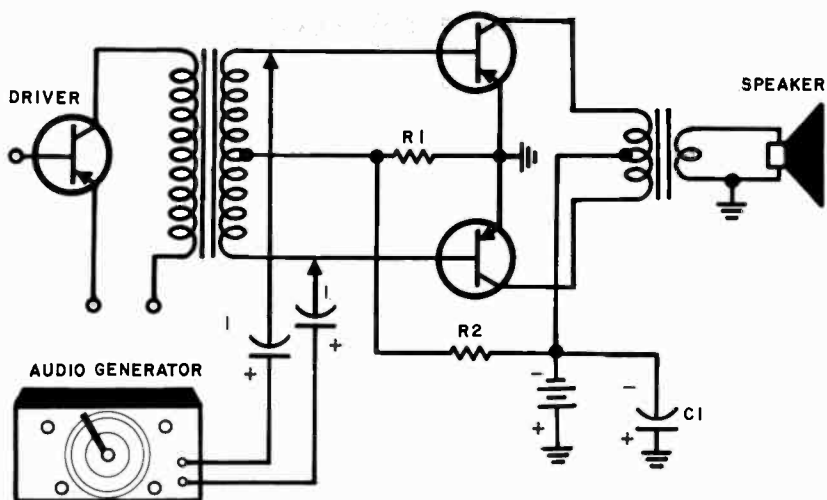
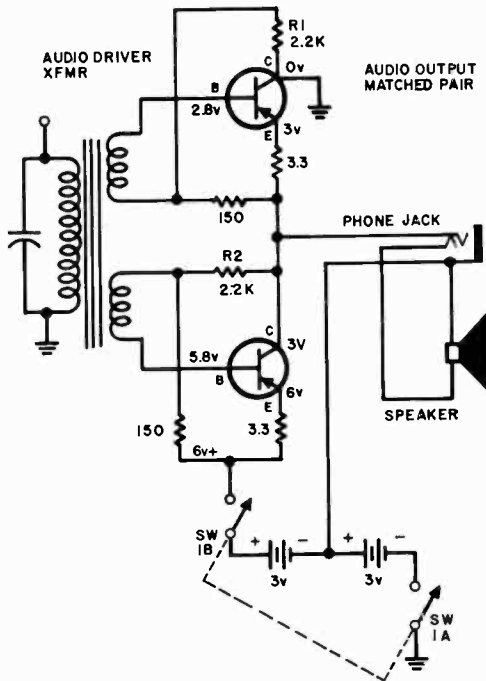

Fig. 312. Testing a push-pull audio output stage. The stage is transformer-coupled at the input and the output.
Fig. 313. Push-pull output stage with direct coupling to speaker and phones.
To get a little more volume out of the speaker and a little less distortion, many transistor receivers have a push-pull output stage, just as shown in Fig. 312.
The quick check for the push-pull output stage is a little bit different. Use the connections shown in Fig. 312.
Fig. 312 is a little unusual so follow the explanation carefully. We have two leads connected to the audio generator. Note that a pair of 1- μ f capacitors are in series with each lead. One of these is the ground lead but it really makes no difference which lead is connected to the top transistor and which to the bottom one.
4. Finally, connect the leads as shown in Fig. 312. If the signal comes through, the entire stage is working.
No signal out of the speaker when the audio generator is connected as shown in Fig. 312.
In one way all push-pull stages are alike—the job they are designed to do is the same. One that is really different is shown in Fig. 313.
When we compare the circuit of Fig. 313 with that of Fig. 312 we see that the output transformer has disappeared. The voice coil of the speaker gets the collector-to-emitter current of each transistor, in turn.